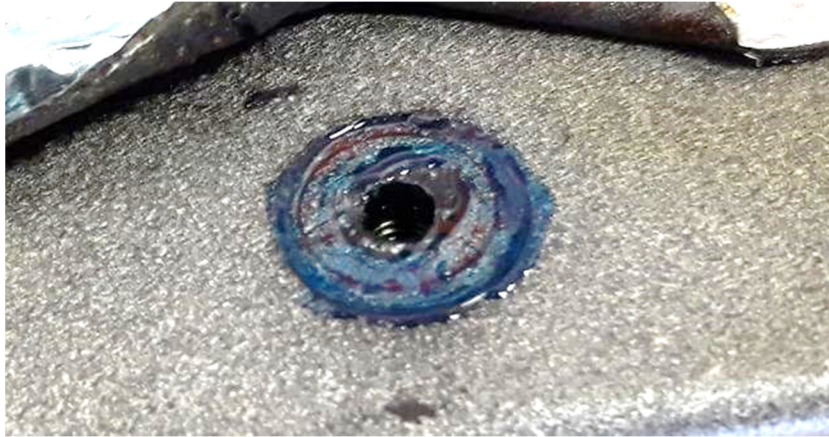

FIG. 12
16. Using the “Hylomar™” applicator apply the sealant to the bottom (FIG. 12).